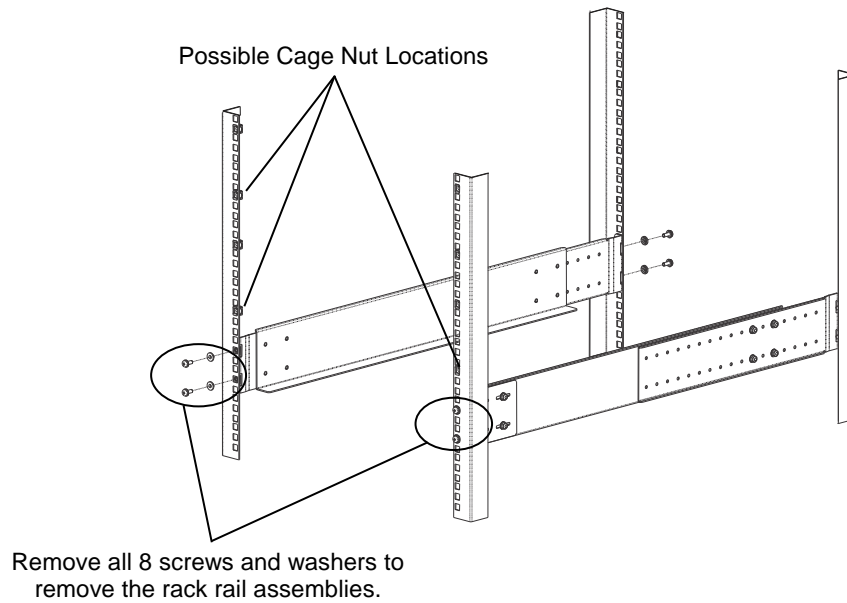

Figure 7-18 Rack Rails being removed
9. With the library removed, use a Number 2 Phillips screwdriver to remove the eight screws and their washers that secure the rack mounting rails to the rack as shown in Figure 7-18.